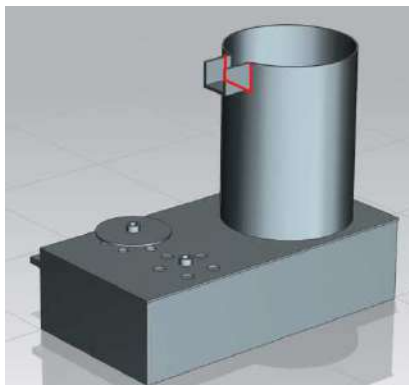

Figure 24. Valve box with one cylinder and U-channel
9. Now weld the U-channel into the first cylinder (**DO NOT overlap into the cylinder! If sharp corners from the U-channel overlap into the cylinder, they could damage the seals.**) Figure 24 shows where to weld the U-Channel to the cylinder.